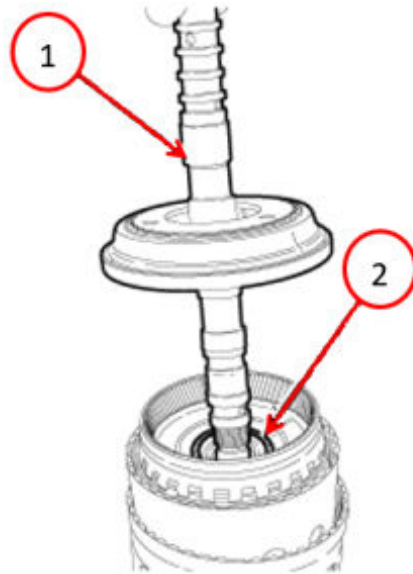

Fig. 30
44. Install the input shaft with P2 planetary carrier into the drum assembly Fig. 30.